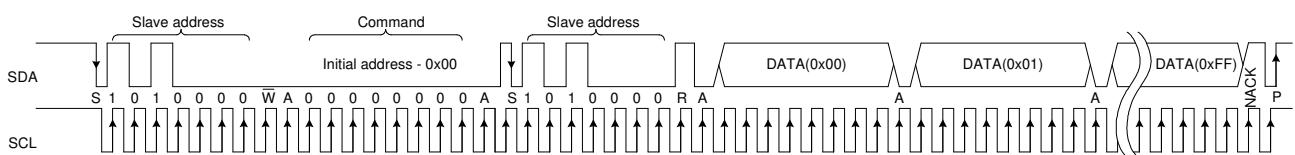

Figure 4 Whole EEPROM dump ( $SA = 0x50$ , command =  $0x00$ )
- **Read the whole EEPROM** (see Figure 4). For maximum speed performance MELEXIS recommends that the whole calibration data is stored into the client MCU RAM. However it is possible to read the calibration data from the EEPROM only when needed during calculations. This will result in increased time for temperature calculation i.e. low refresh rate.